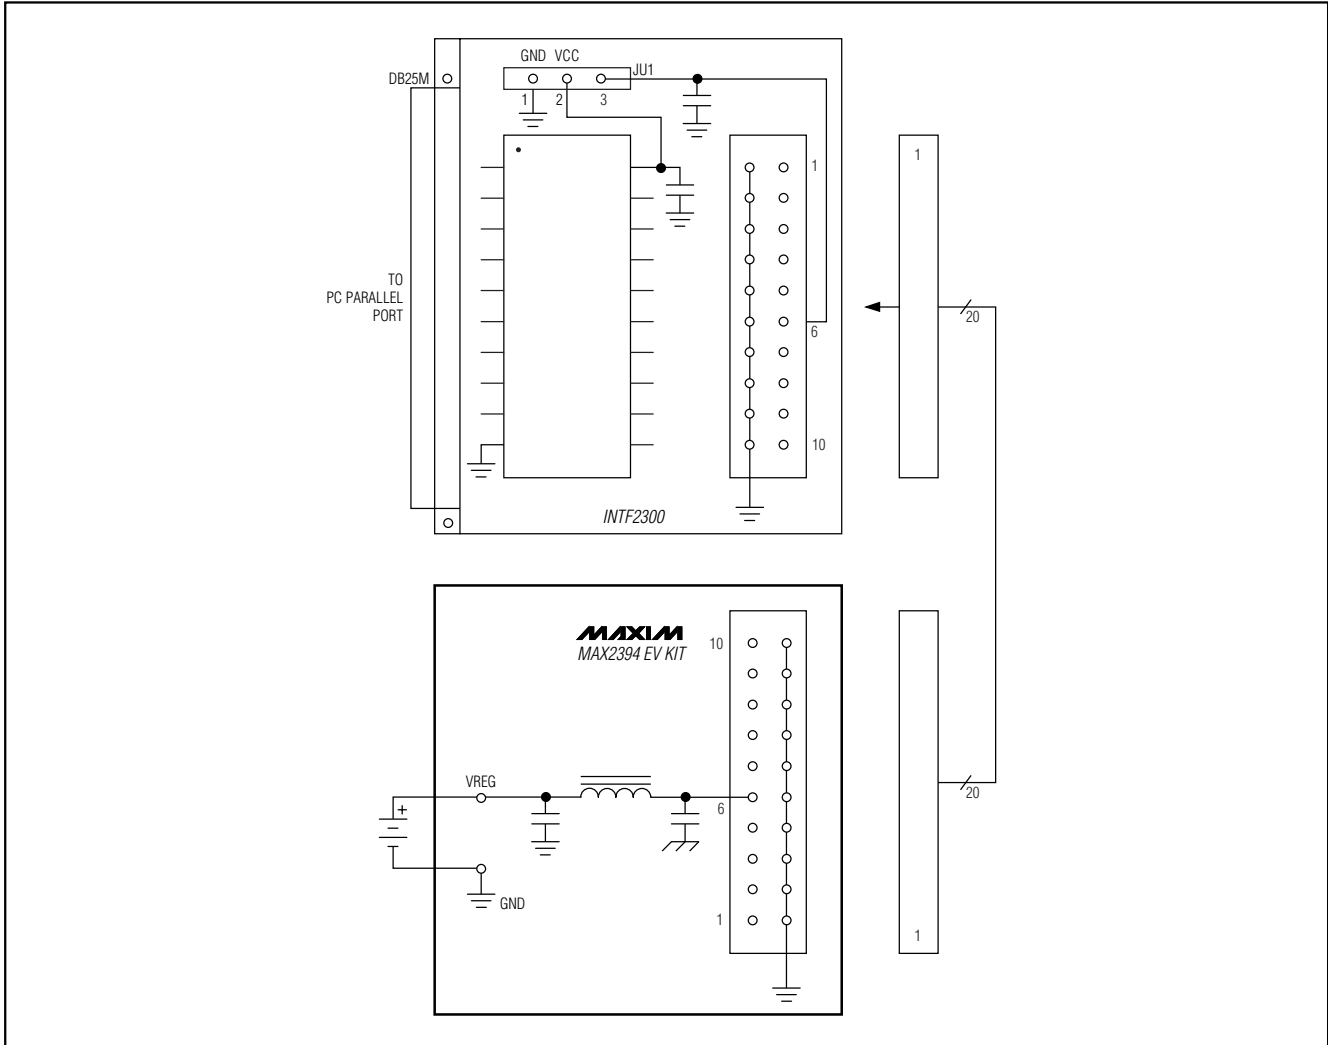

Figure 1. MAX2394/MAX2395 EV Kits PC Board Layout—Solder Side
- 2) Connect the INTF2300 interface cable to the MAX2394/MAX2395 EV kit and interface board (Figure 1).